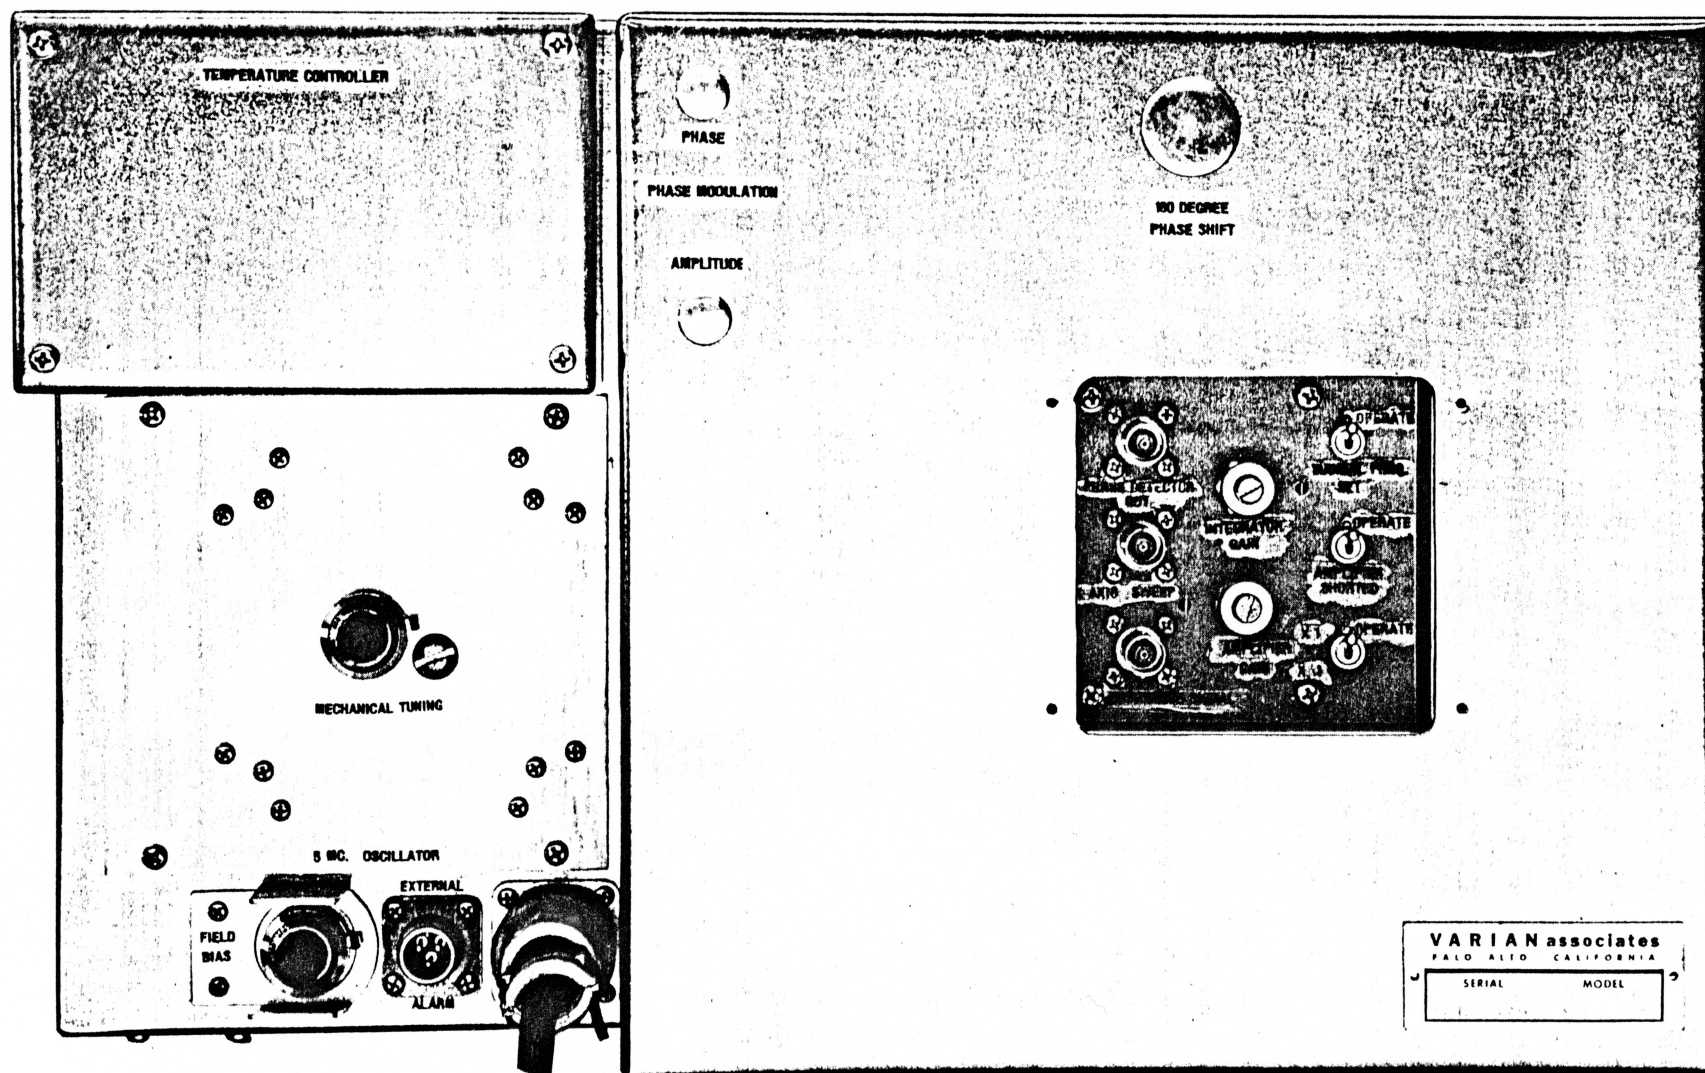

FIGURE 3-3. REAR VIEW, V-4700A FREQUENCY STANDARD
3.1.3.1 Rear Controls (See Figure 3-3.)